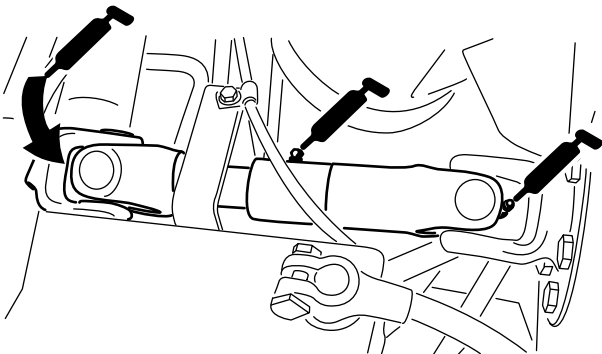

Figure 44
- Pump-driveshaft U-joint (3) (Figure 44)